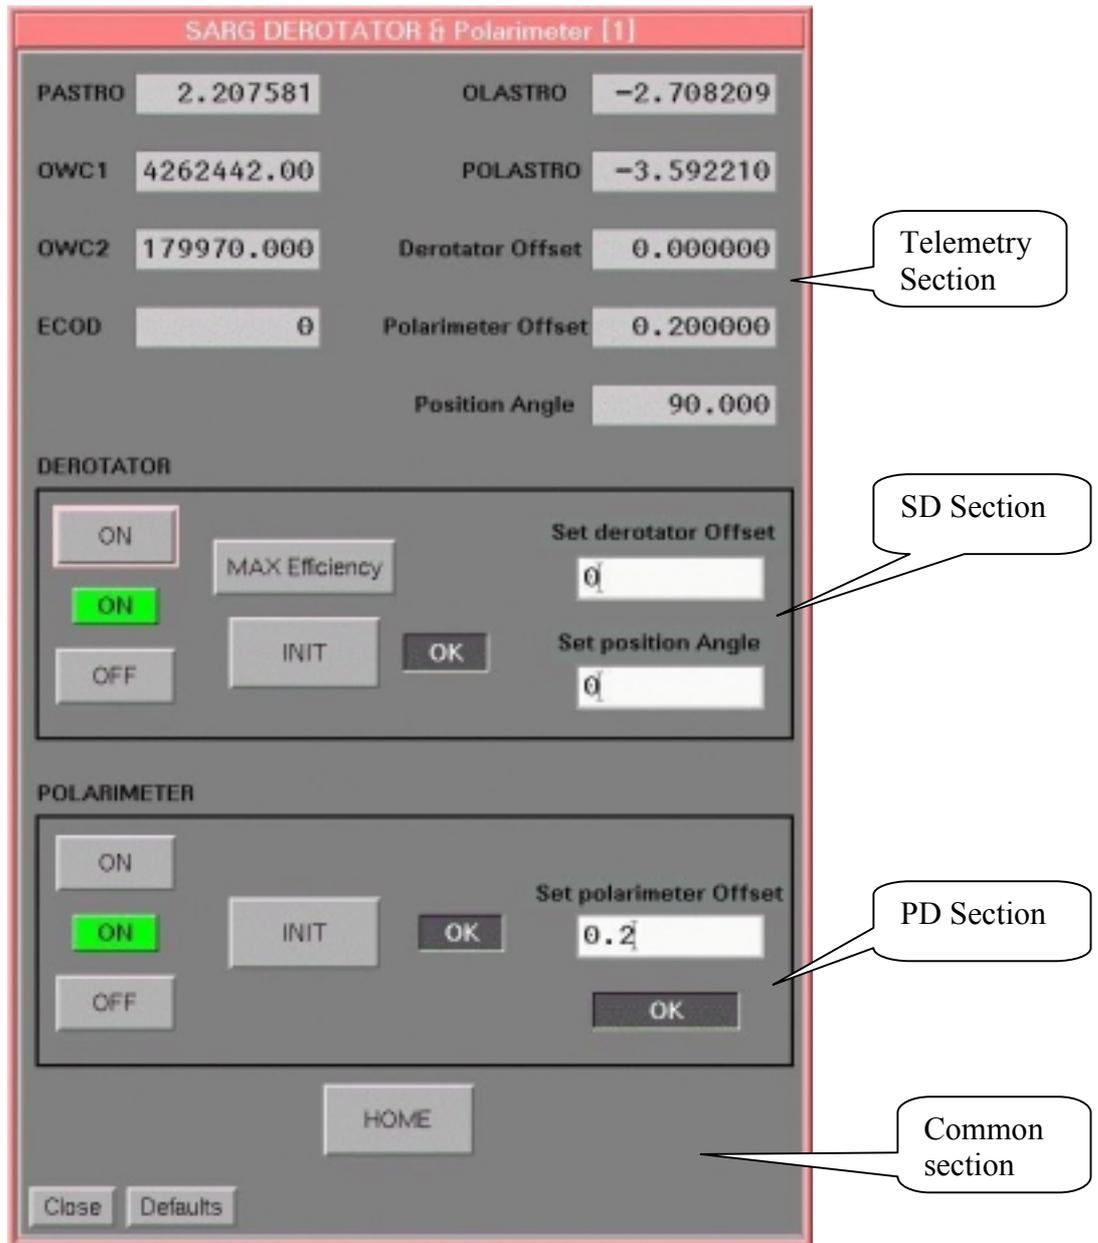

Figure 1 : Sarg derotator user interface
When "SARG DEROTATOR" interface is started, the panel of **Figure 1** will appear to the user. In this panel some information about the status of the derotation is shown and some actions are permitted.
In the **Figure 1** three sections are shown: At the top a telemetry section, in the middle the SARG Derotator (SD) section and Polarimeter Derotator (PD) section and at the bottom a home command (common to SD and PD sections)